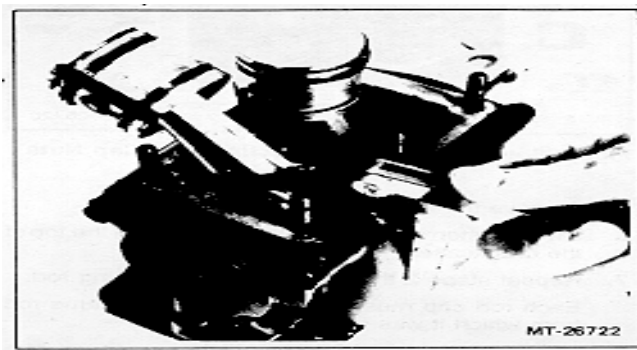

Figure 10 - Checking Connecting Rod Side Clearance
Connecting rod bearing inserts must be free of scoring, pitting or any visible wear. Inspect rod bearing fit on crankshaft journals Be sure to check connecting rod bearing side clearance on crankshaft (Figure 10). Refer to SPECIFICATIONS in this Section for clearance. **PAGE 2297**
1. Position crankcase so that pistons are up (Figure 10).